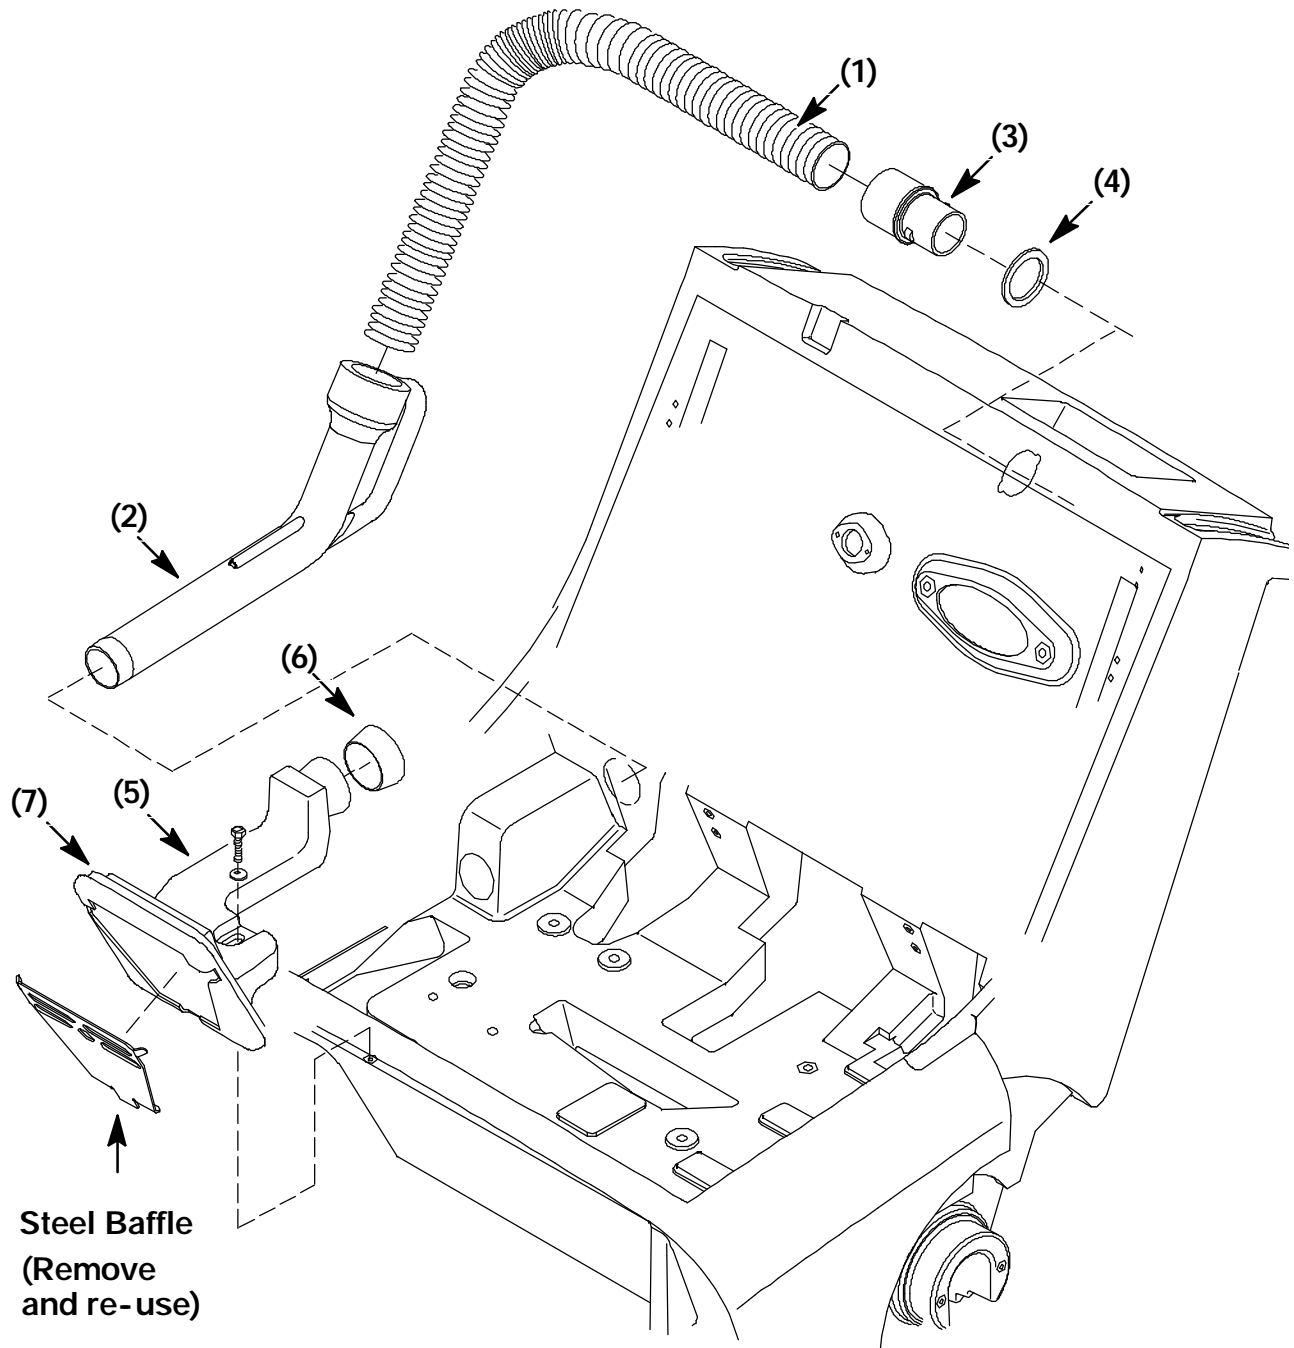

FIG. 2 Reduced Flow Assembly Installation
8. Install the new vacuum chamber seal (7) on the new vacuum chamber (5). (Refer to FIG. 2)
9. Install the new vacuum tube seal (6) on the end of the vacuum chamber (5). (Refer to FIG. 2)
10. Assemble the hose (1) to the wand (2) and cuff (3). Assemble the seal (4) to the cuff (3). (Refer to FIG. 2)
11. Install the cuff into the frame. (Refer to FIG. 2)
12. Position the new vacuum chamber (5) into the machine. (Refer to FIG. 2)
13. Install the wand (2) and hose assembly through the frame, into the vacuum seal (6). (Refer to FIG. 2)
14. Reinstall the hex screw and tighten the vacuum chamber (5). (Refer to FIG. 2)